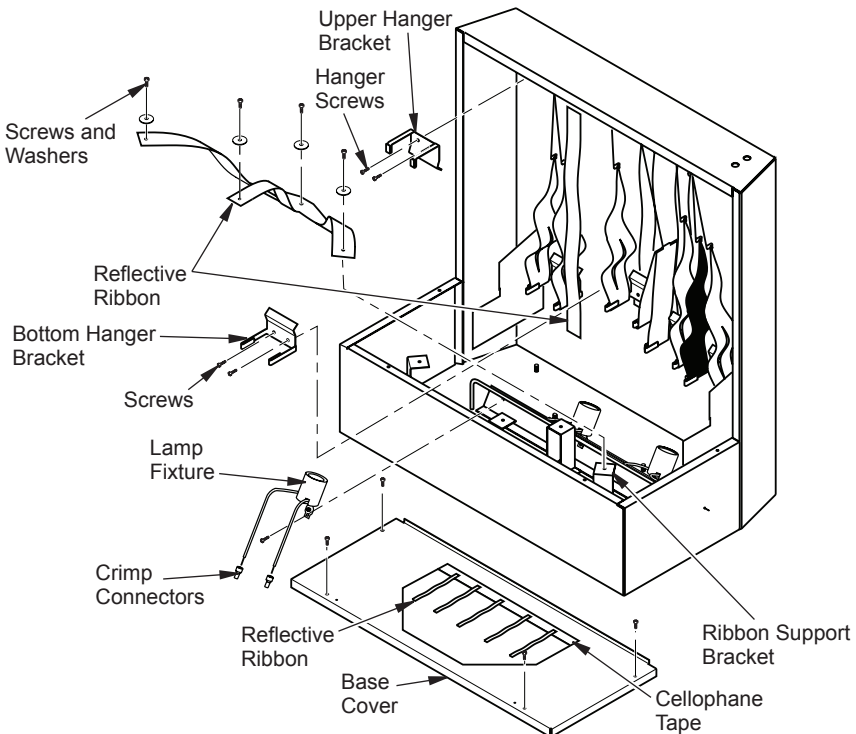

Figure 39 - Replacing Fixtures (Shown without Firebox for Clarity)
4. Remove 2 Phillips screws at base of defective fixture (see Figure 39).
2. Locate defective ribbon; there are 3 strips mounted on rear cabinet and 3 mounted in base (see Figure 39, page 20).
3. If upper back cabinet ribbons need replacing, remove 4 Phillips screws holding corresponding bottom and top hanger brackets (see Figure 39, page 20).
5. Cut an 18" strip of reflective ribbon and position top end about an inch above top bracket position (see Figure 39, page 20).
9. Cut a 9" long strip of ribbon and apply across each ribbon support bracket with shiny side facing up (see Figure 39, page 20).
11. If replacing top reflective ribbons on base cover, cut a 3" section of ribbon and split down the middle. With shiny side up, attach with cellophane tape into rear edge of base cover opening (see Figure 39, page 20).